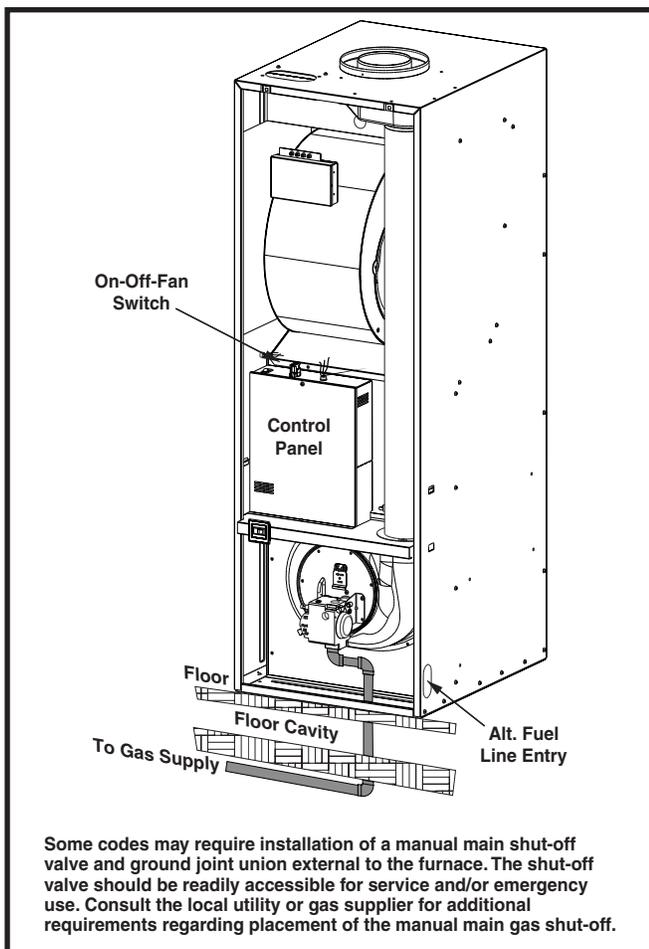
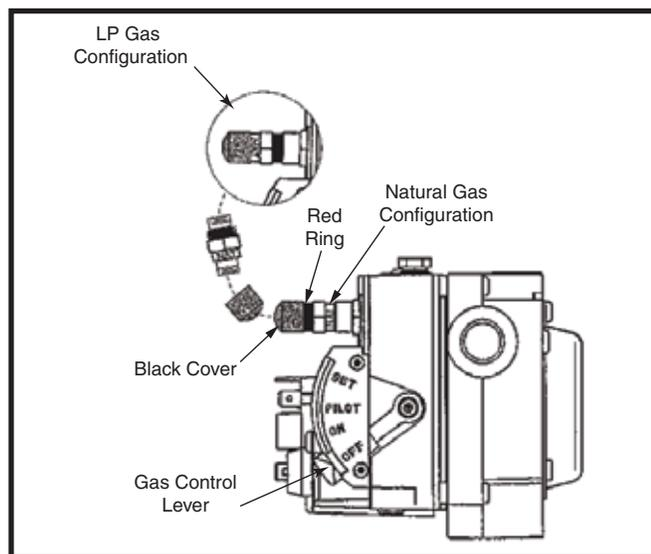

Figure 26. Typical Gas Piping
Figure 27. Robertshaw Gas Valve
This furnace may be installed with left, right, or bottom gas entry. When connecting the gas supply, provide clearance between the gas supply line and the entry hole in the furnace casing to avoid unwanted noise and/or damage to the furnace. Typical gas service hookup for this furnace is shown in Figure 26 \(page 16\).
- Some local regulations require the installation of a manual main shut-off valve and ground joint union external to the furnace. See Figure 26 \(page 16\). The shut-off valve should be readily accessible for service and/or emergency use. Consult the local utility or gas supplier for additional requirements regarding placement of the manual main gas shut-off.
- Fuel line installations other than typical installations shown in Figure 26 \(page 16\) & Figure 27 \(page 17\) must comply with the fuel piping provisions stated in the Federal Manufactured Home Standard (H.U.D. TITLE 24, PART 3280) and the National Fuel Gas Code (ANSI-Z223.1/NFPA-54).
This furnace can be converted from factory-equipped natural gas to liquid propane gas. Conversion of this valve requires replacement of the burner orifice and flipping the regulator cap to the side marked LP. The orifice required for conversion is supplied with the furnace. See Figure 27.
- Remove three (3) bolts from U-shaped manifold plate and orifice assembly (M1B Models).
- a. Unscrew the pressure regulator cap and check for the letters NAT or LP. See Figure 27 \(page 17\).
1. Remove the inlet pressure plug from the INLET side of the gas valve with a 3/16 Allen wrench. See Figure 27 \(page 17\).
1. Remove the manifold pressure plug from the outlet side of the gas valve with a 3/16 Allen wrench. See Figure 27 \(page 17\).
6. Replace the cap so that the letters facing up represent the type of gas being used for the furnace. See Figure 27 \(page 17\).